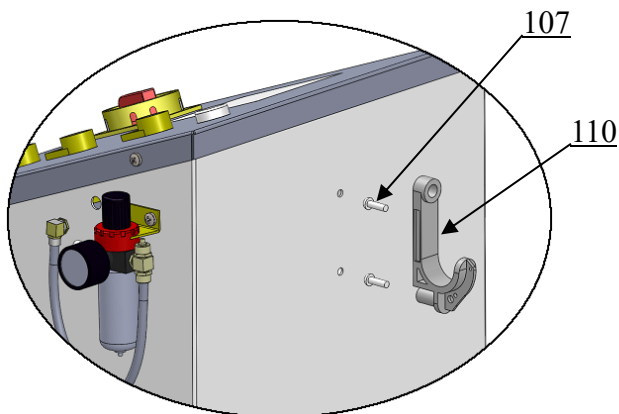

Fig. 17
5. Install a hook for wire and wrap the wire. **(See Fig.17 & 18).**